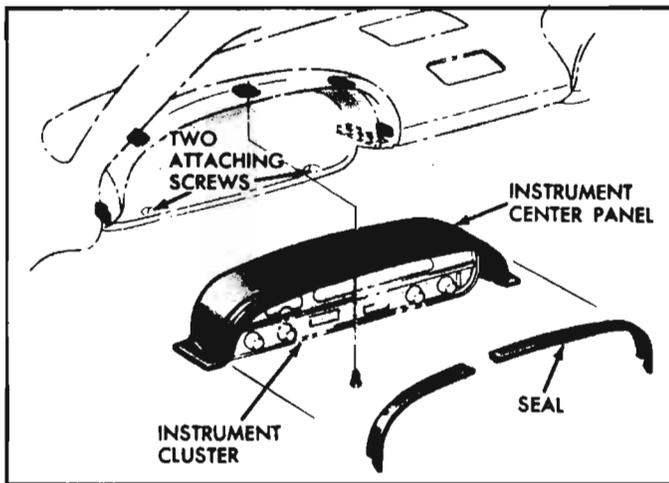

Fig. 8-116—Instrument Cluster Attaching Screws
- Remove the eleven screws that attach the cluster assembly to the instrument panel. Two of the screws attach from the rear and are not shown in Figure 8-116.